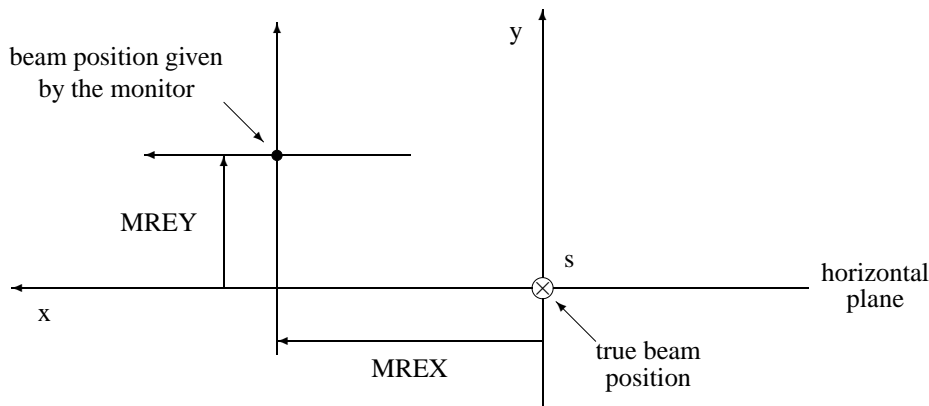

Figure 10.4: Example of Read Errors in a monitor.
**MREX** The horizontal read error for a beam position monitor (default: 0 m). This is ignored if the element is not a monitor. For a positive value (see Figure 10.4) the reading for  $x$  is too high.
**MREY** The vertical read error for a beam position monitor (default: 0 m). This is ignored if the element is not a monitor. For a positive value (see Figure 10.4) the reading for  $y$  is too high.